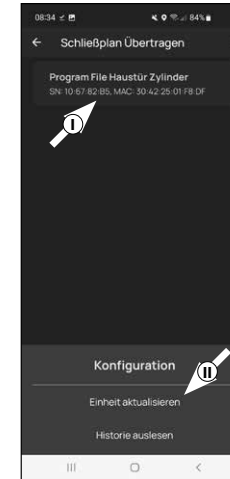

Fig. 6
- 6 Tap on the programming file you have just created (I) (Fig. 6) and tap on "Update unit" (II) in the menu that appears (Fig. 6).